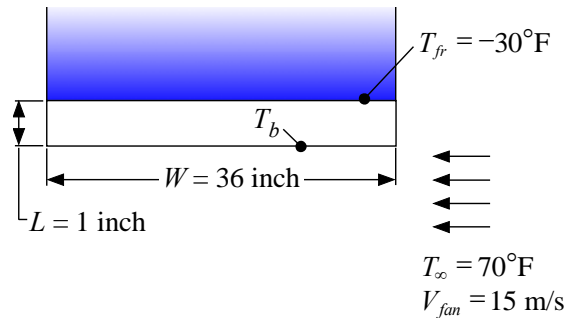

Figure P6.2-10: Air gap installed on the bottom surface of a freezer.
6.2-10 Figure P6.2-10 illustrates the bottom of a freezer chamber placed in a laboratory environment.
- Determine the bottom temperature of the freezer (T_b in Figure P6.2-10) and the rate of heat transfer to the freezer.